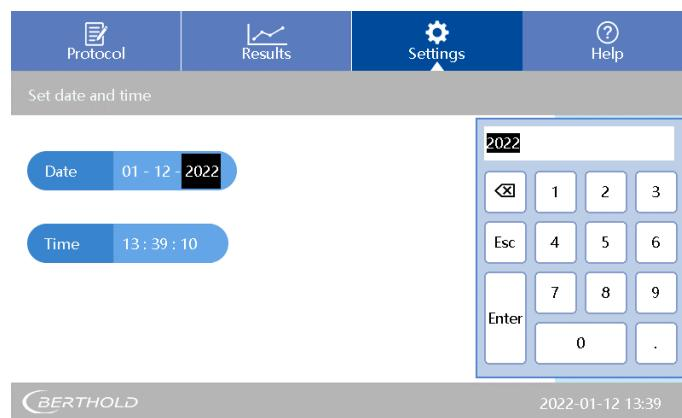

Fig 52 Set Date&Time
1. Click <Date&Time> in the [Settings] tab page. Click on the right side of <Date> or <Time> on the area to set. See Fig 52.